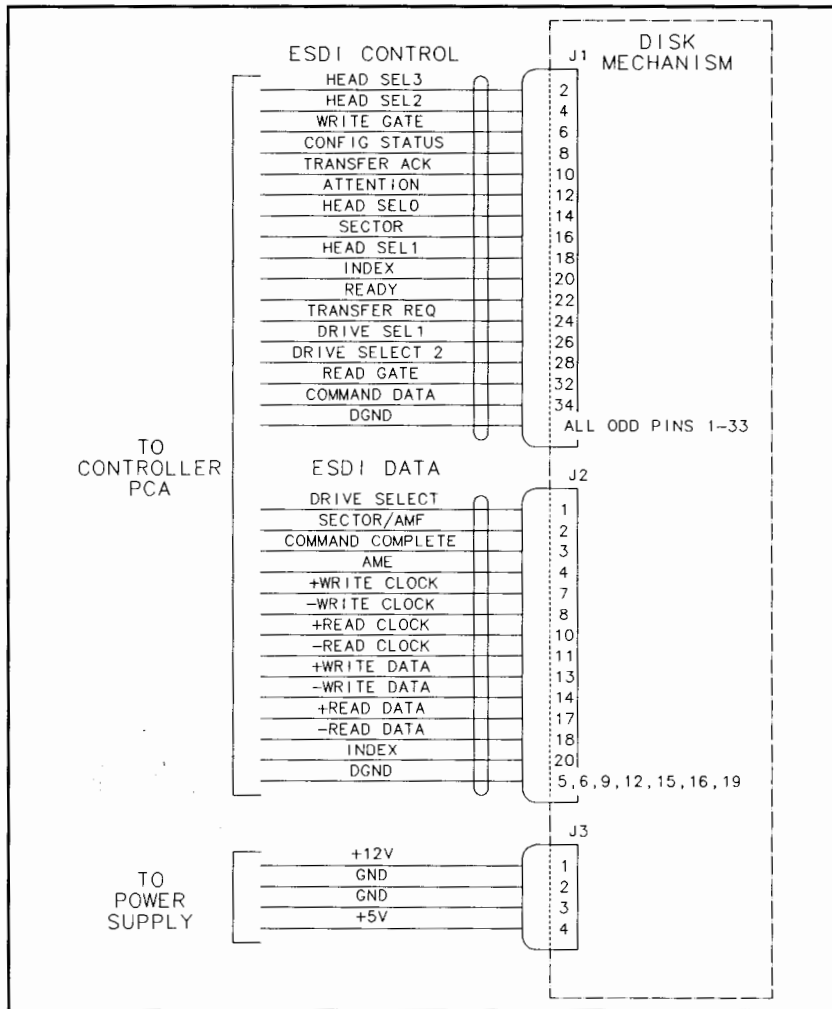

Figure 9-1. Disk Mechanism Signal Distribution
- Figure 9-1. Disk Mechanism Signal Distribution